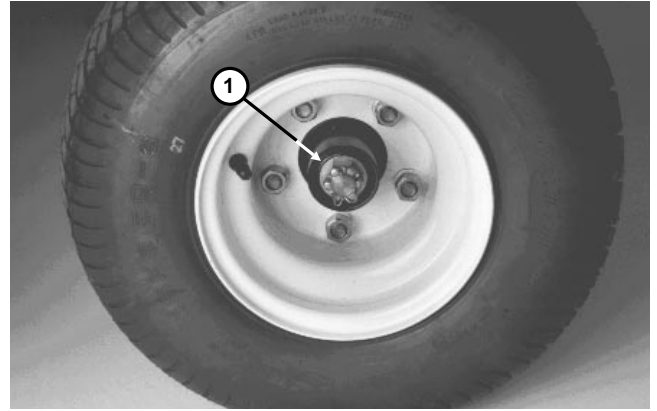

Figure 19
2. Rotate the wheel by hand and tighten the slotted nut (Fig. 19) until the bearing binds SLIGHTLY. Then, loosen the nut until the nearest slot and hole in the spindle line up. Reinstall the cotter pin to retain the slotted nut in place. NOTE: The correct end play of the adjusted assembly is .002 - .005 inches.